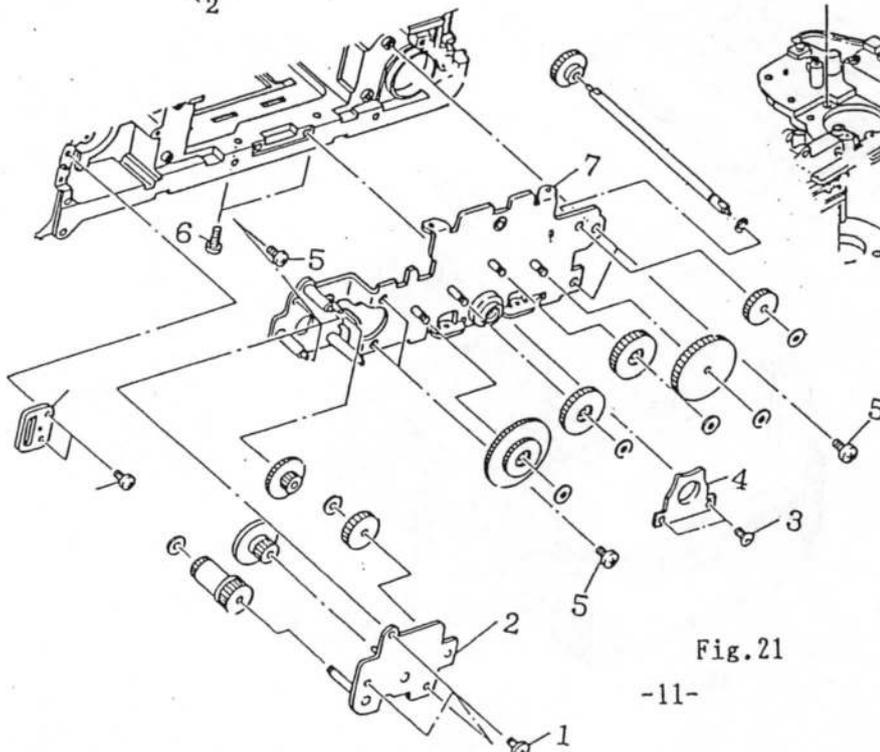

Fig.21
- (1) Take off two SCREWS (No.1) and remove the STRAP METAL (No.2) and the LUG PLATE (No.3).
- (2) Take off two SCREWS (No.1,2) then remove the BATT. CONTACT(-) (No.3) the PIN HOLDRE (No.4) and the BATT. CONTACT (+)(No.5).
- (3) Take off three SCREWS (No.4) and remove the W MOTOR (No.5).
16. Bottom base plate (Fig.21)